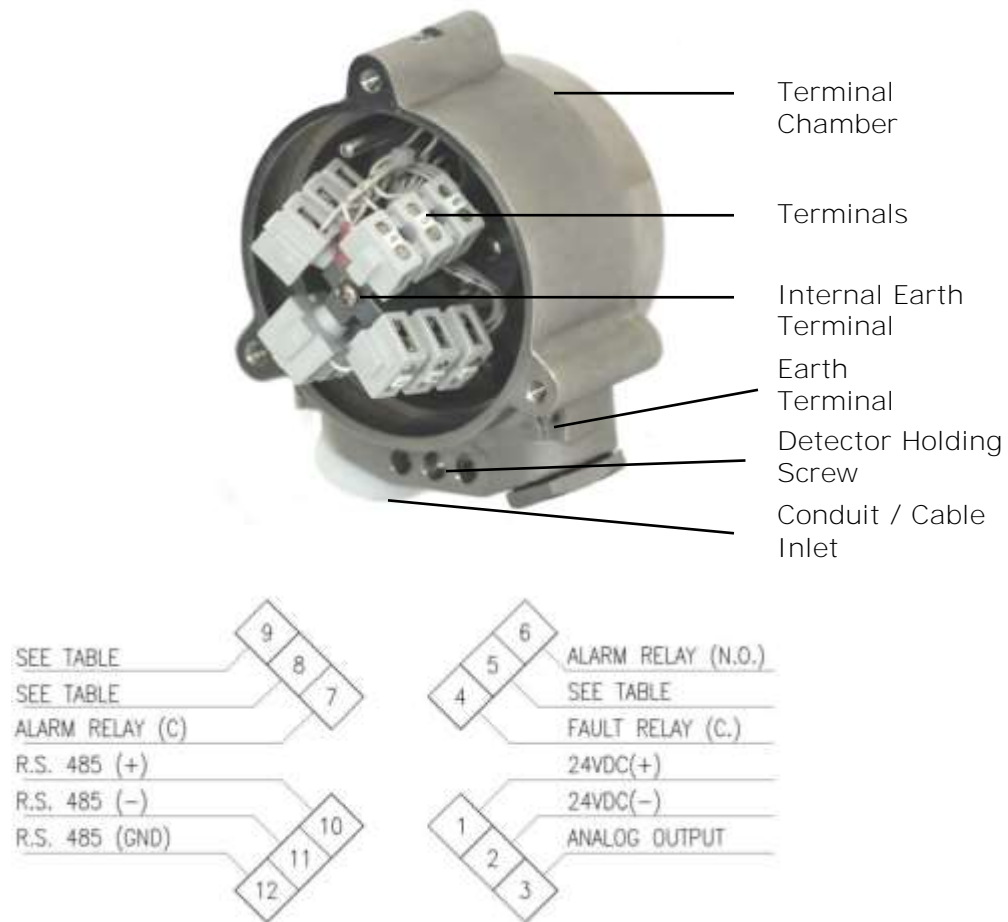

Figure 7: Detector with Cover Removed
This section describes how to connect the electric cabling to the detector (figure 7).
- 5 Connect the wires to the required terminals on the Terminal Board according to the wiring diagram (figure 7) and table 16.
- 8 Check the wires for secure mechanical connection and press them neatly against the terminal to prevent them from interfering while closing the back cover (figure 7).